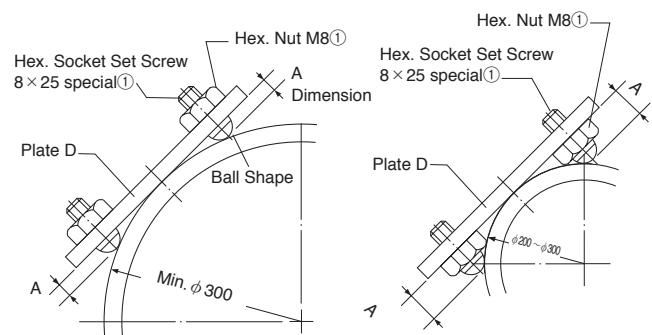

Fig.13
The tool can be used on the workpieces at the minimum diameter of 300mm by adjusting dimension A of both Hex. Socket Set Screws (8×25 special) ① in either direction. (Fig.13)
Chamfering on an outer diameter of O.D. 200mm – O.D. 300mm can done by placing the Hex. Nut on the other side of Plate D. (Fig.13, 14)